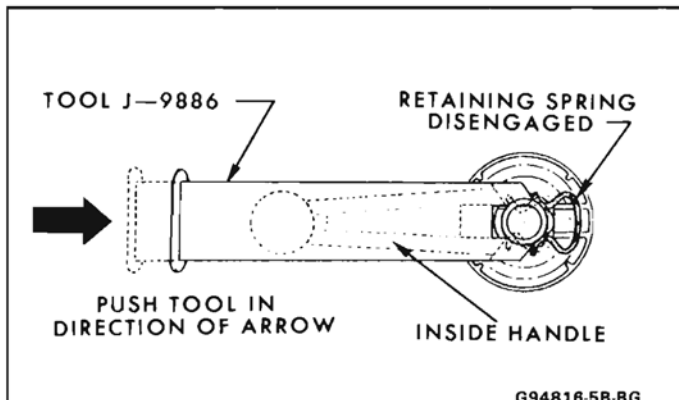

Fig. 3-Removing Window Regulator Handle
- Push tool as indicated in Figure 3.
2. Handle (11)
3. Plate (13)